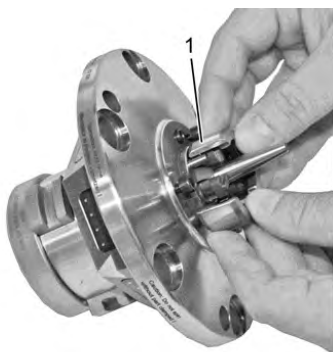

Fig. 20
5. Insert MANDO Adapt T211 [2] in the clamping device [1]. In this process, ensure that the threaded holes [Fig. 20/3] are flush with the threaded holes on the clamping device [arrow].